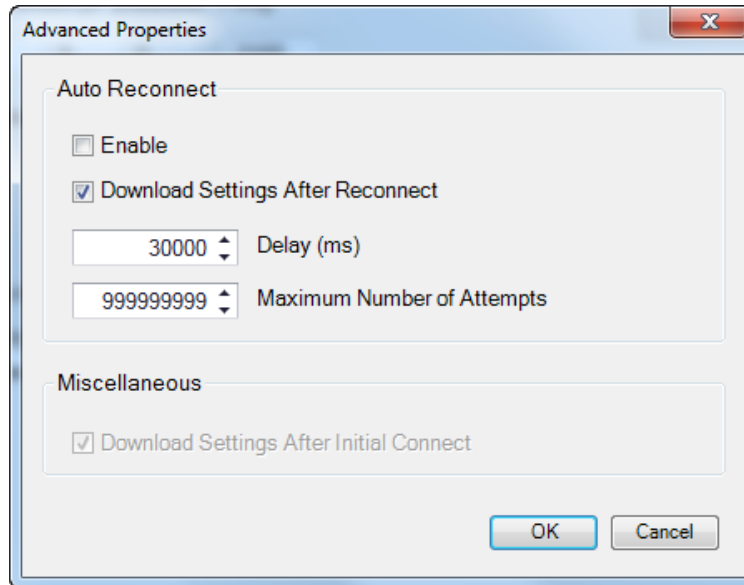

Figure 128. Advanced Properties, Auto Reconnect
7. The *Advanced* button displays the following window. It contains options for enabling Auto Reconnect, the delay between retries (in milliseconds), and the maximum number of attempts. (Figure 128)